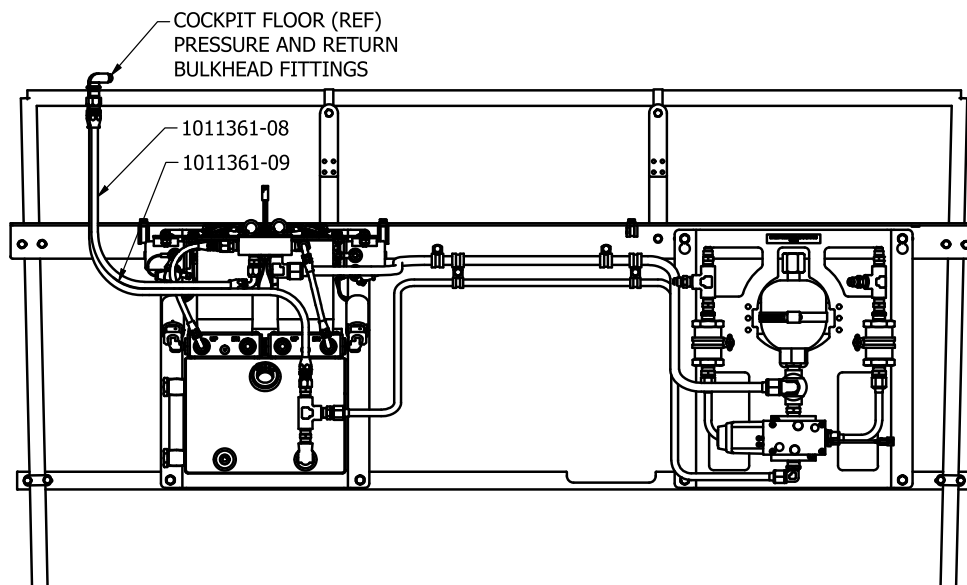

FIGURE 12
I. Install hydraulic line 1011361-08 from the hydraulic manifold fitting located under the top plate of the hydraulic powerpack assembly to the aft cockpit floor bulkhead fitting. Install hydraulic line 1011361-09 from the top fitting on the hydraulic reservoir to the second to last fitting of the cockpit floor bulkhead fittings. See Figure 12.